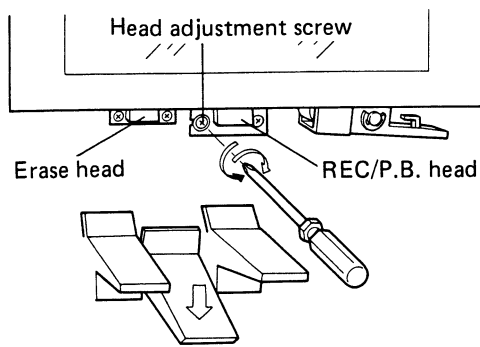

Fig. 10-2 Head Azimuth Adjustment
4. Play the 10kHz section of the STD-341A test tape, and adjust the head azimuth adjustment screw (see Fig. 10-2) to obtain maximum output levels (millivoltmeter readings) in both left and right channels.